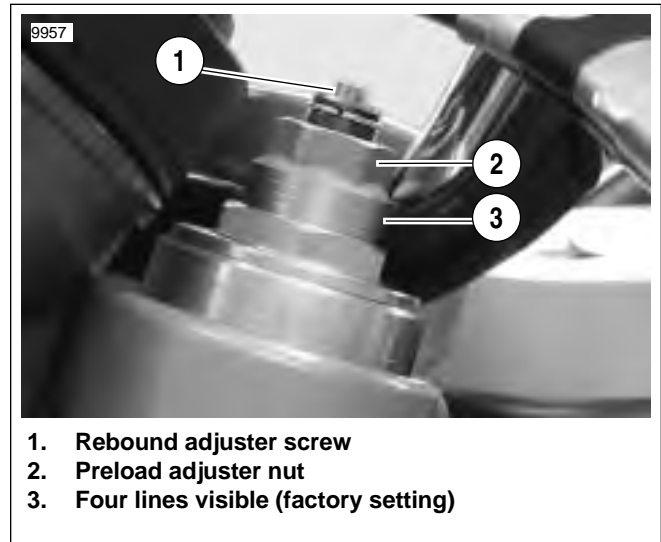

Figure 1-35. Front Fork Preload And Rebound Adjuster
1. Check number of lines (3) to be showing for your load condition. Refer to Table 1-10.
2. See Figure 1-35. Adjust preload by turning the adjuster nut (2) with a wrench.
1. See Figure 1-35. Using a screwdriver, turn the slotted dial (1) clockwise until it stops. This is the maximum rebound damping setting.